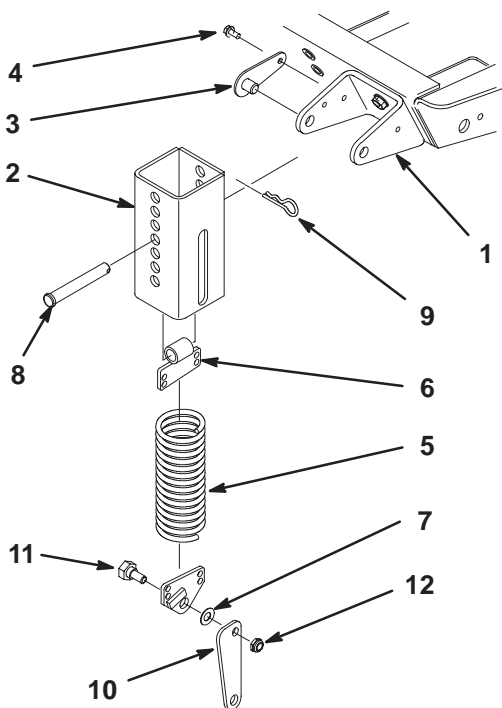
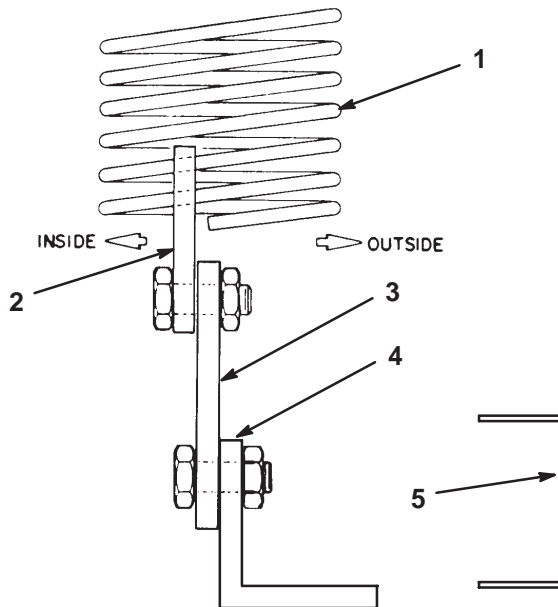

Figure 11
Figure 13
5. Thread the top extension spring coil into the top spring end holes and the bottom extension spring coil into the bottom spring end holes (Fig. 11).
6. Mount the knee link to the lower spring end with the wide part of the knee link pointing forward and the spring end stop pointing forward. Secure the knee link to the outer side of the spring end (Fig. 13) with a shoulder bolt and locknut (Fig. 11 and 12).
8. Align the slotted holes in the spring cover (slot toward the bottom) with the mounting bracket holes. Insert the lock pin assemblies into the bracket holes and secure each to the bracket with self-tapping screws (Fig. 11). Torque the screws to 20 ft.-lb. (27 N·m).
9. From the bottom, insert the spring and top spring end into the spring cover. Select a hole that matches the cutter deck height-of-cut setting; i.e., the top cover hole matches the highest height setting, the bottom cover hole the lowest, etc. Align the top spring end hole with the selected spring cover holes and insert the clevis pin to secure the spring inside the cover (Fig. 11). Secure the clevis pin with a hairpin cotter.